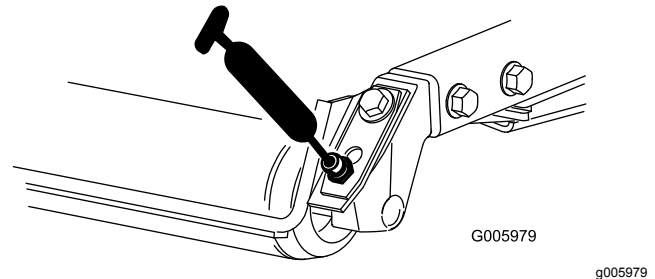

Figure 28
- Rear roller bearings (2 per cutting unit) (Figure 28)